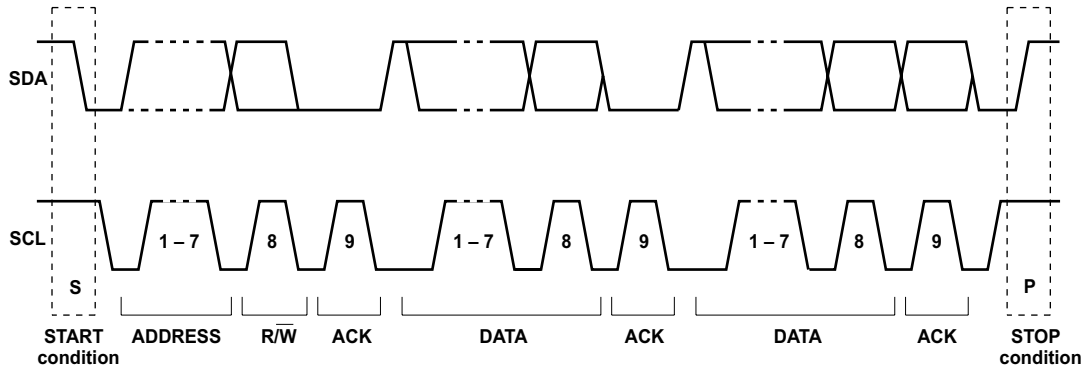

Figure 22. I2C Address and Data Cycles
- The master generates further SCL cycles to either transmit data to the slave (R/W bit 0) or receive data from the slave (R/W bit 1). In either case, the receiver needs to acknowledge the data sent by the transmitter. So an acknowledge signal can either be generated by the master or by the slave, depending on which one is the receiver. The 9-bit valid data sequences consisting of 8-bit data and 1-bit acknowledge can continue as long as necessary (see Figure 22).